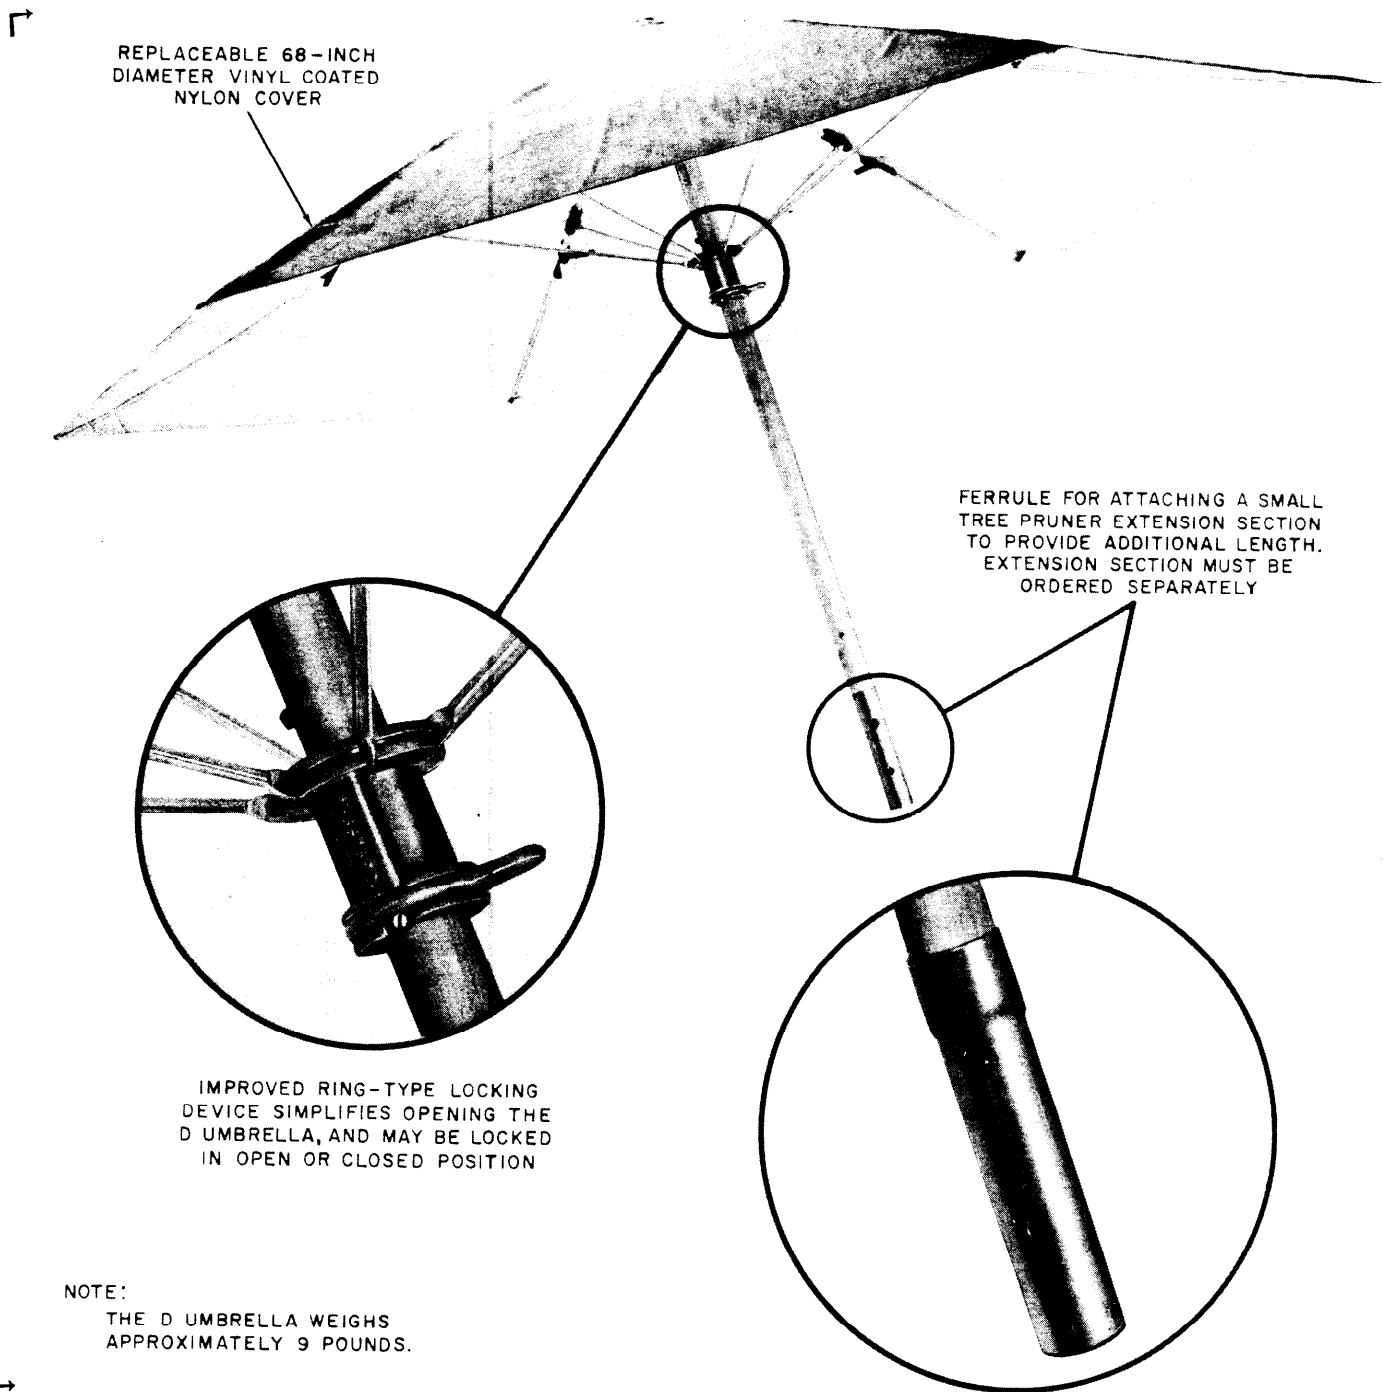

Fig. 1—D Umbrella
2.01 ♦The D Umbrella consists of a 43 inch long wooden pole and a frame of six collapsible fiber glass ribs covered with vinyl coated nylon (Fig. 1). It is colored yellow on the outside (top) and white on the inside. The umbrella weighs approximately 9 pounds and has a diameter of 68 inches when opened.♦